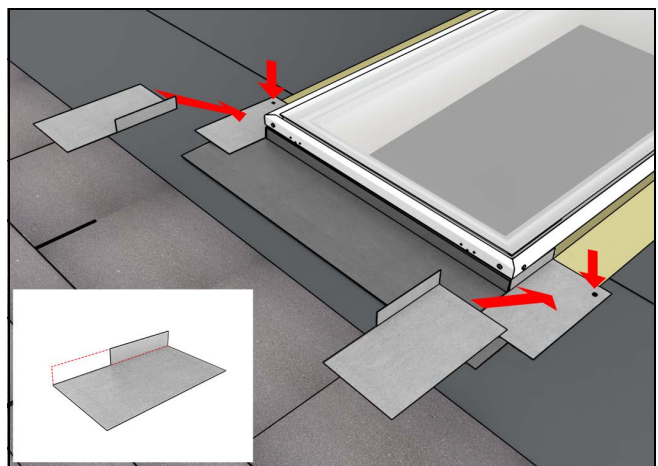

Figure 17
15. First step flashing placed a minimum of 4" beyond the sill of unit. *Note: remove material of vertical leg that extends beyond sill saddle.* See Figure 17.